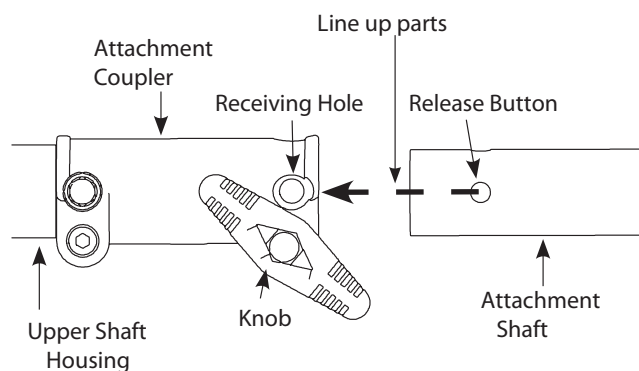

Fig. 10
1. Turn knob counterclockwise to loosen (Fig.10).
2. While firmly holding the attachment shaft, push it straight into the attachment coupler (Fig.10).
NOTE: Aligning the release button with receiving hole will help installation (Fig.10).